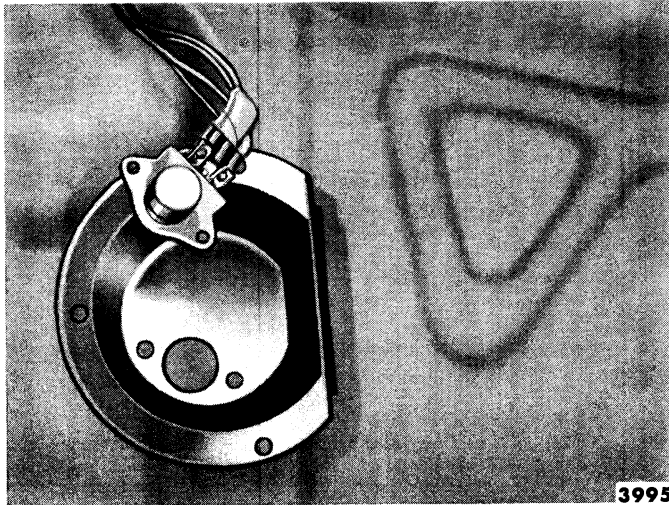

Fig. 13—Headlight Beam Control Switch
(2) **HEADLIGHT BEAM CONTROL SWITCH.** Lay the floor mat back from the area of the switch, and remove the mounting plate screws (fig. 13). Remove the switch from the mounting plate, and disconnect the three wires at the switch.